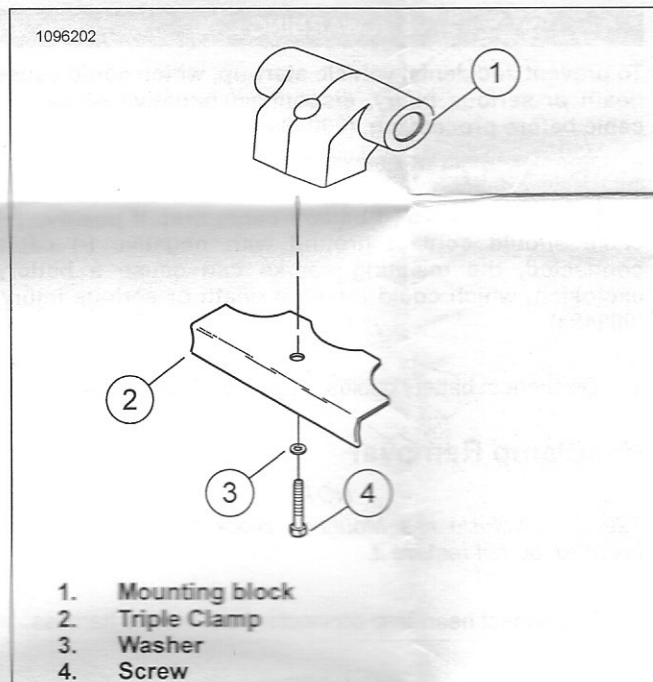

Figure 1. Mounting Block to Triple Clamp (Typical)
1. See Figure 1. Install mounting block (1) to triple clamp (2) using one of the two 5/16 in. screws (4) from the kit and washer (3).